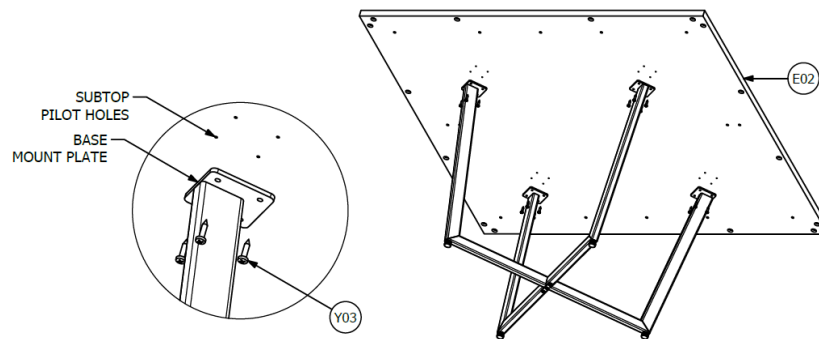

FIGURE 03: 1-PIECE SUBTOP ASSEMBLY
1. Place Subtop (E02) on Table Base with pilot holes to attach Subtop facing down. See Figure 03.
2. Align pilot holes in Subtop to holes in Base Mounting Plates, then use Fastener (Y03) to secure them. See Figure 03.